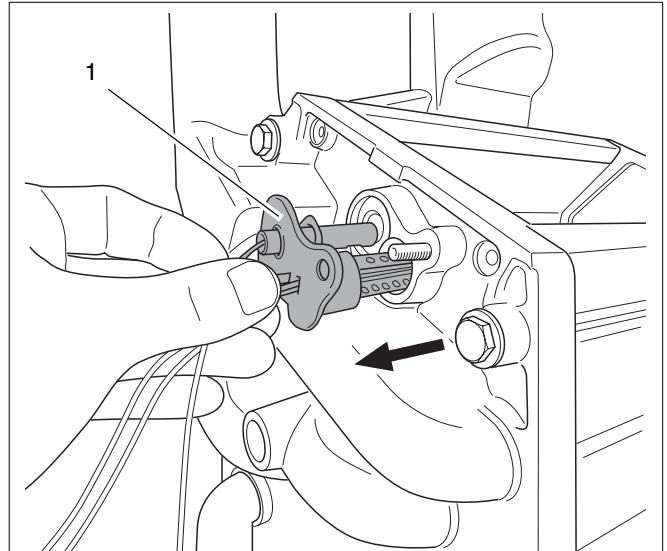

Fig. 127 Removing the hot surface ignitor and the ionization electrode
- Remove both the hot surface ignitor and the ionization electrode by pulling them loose (see fig. 127, pos. 1).